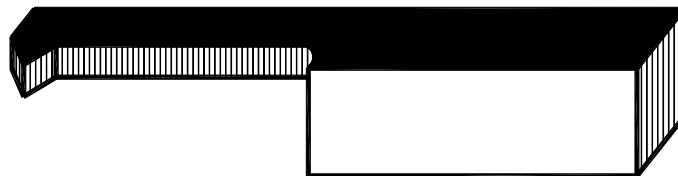

Figure 7-146. Single-piece threading tool ground from a square tool bit blank.
- For holes too small for a boring bar, an HSS tool bit blank may be ground into a small, single-piece threading tool. These are also commercially available. See Figure 7-146.